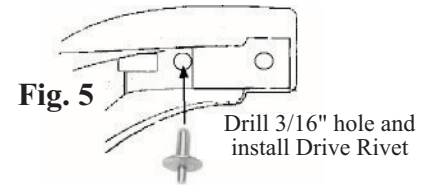

Fig. 5
9. Insuring that all stanchions remain aligned with their respective marks on bars (per Step 9), drill 3/16" holes through bottom side of crossbars in stanchion hole as shown in Fig. 5. Insert the 3/16" drive rivets into drilled holes, and tap rivet mandrel pin firmly with hammer until flush with rivet head. Repeat for each stanchion.